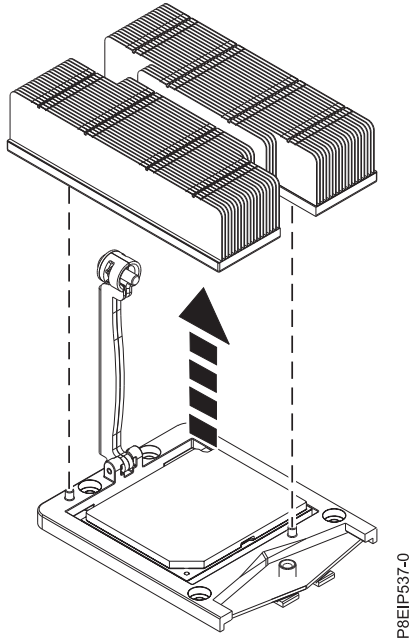

Figure 65. Removing the heat sink
5. Grip the heat sink and remove it by lifting straight up as shown in Figure 65 on page 57.